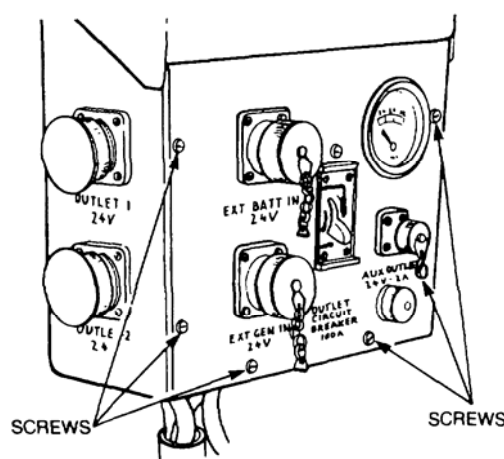

Figure 6 Removal of the PDB
- Remove the six screws securing the front panel and hinged top section of the PDB (Figure 6). Withdraw the front panel from the PDB to allow the power terminals to be exposed. Tag and disconnect all cables, then remove all cables from the bottom of the PDB.